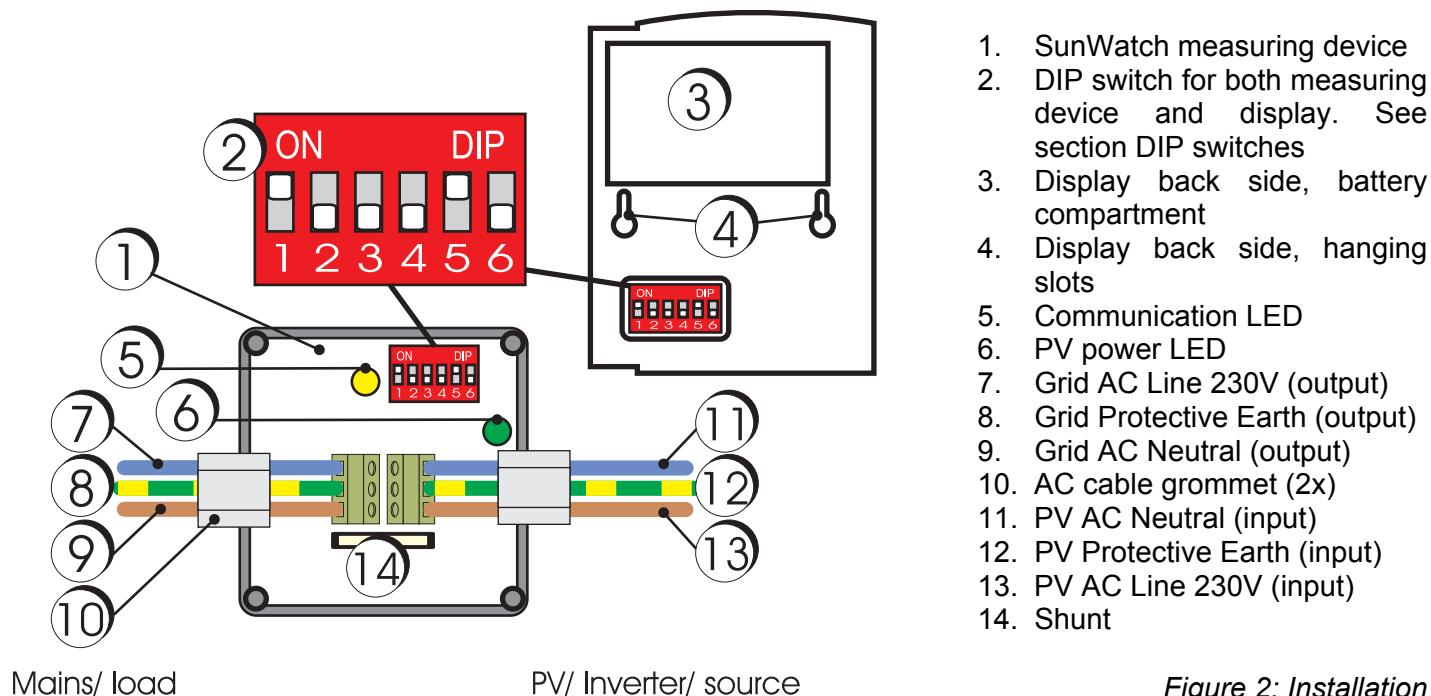

Figure 2: Installation
- See figure 2 point 3. Install batteries in the display (2 alkaline 'penlight', AA-size cells). The battery holder shows how the batteries must be placed.
When opening the unit after it has been in use, be aware that the shunt, figure 2 point 14, may be very hot.
The LED inside the measuring unit (figure 2 ref 5) blinks when the display and the measuring unit are communicating. If it is either on or off all the time, the DIP switch settings may be wrong. Refer to the section DIP switches for more information.